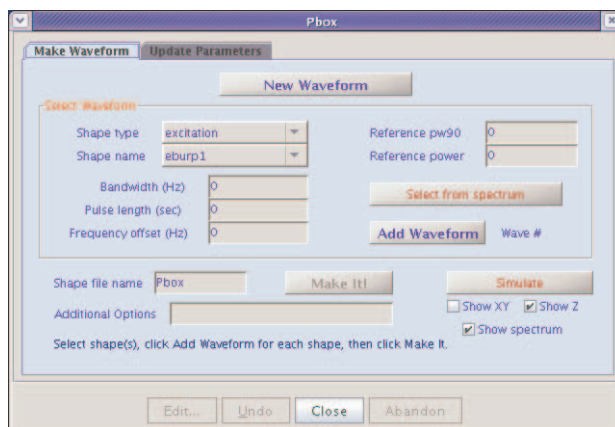

Figure 102. Pbox Make Waveform
3. Click the **New Waveform** button and the tools for creating a wave form are displayed in the Pbox window, see Figure 102.